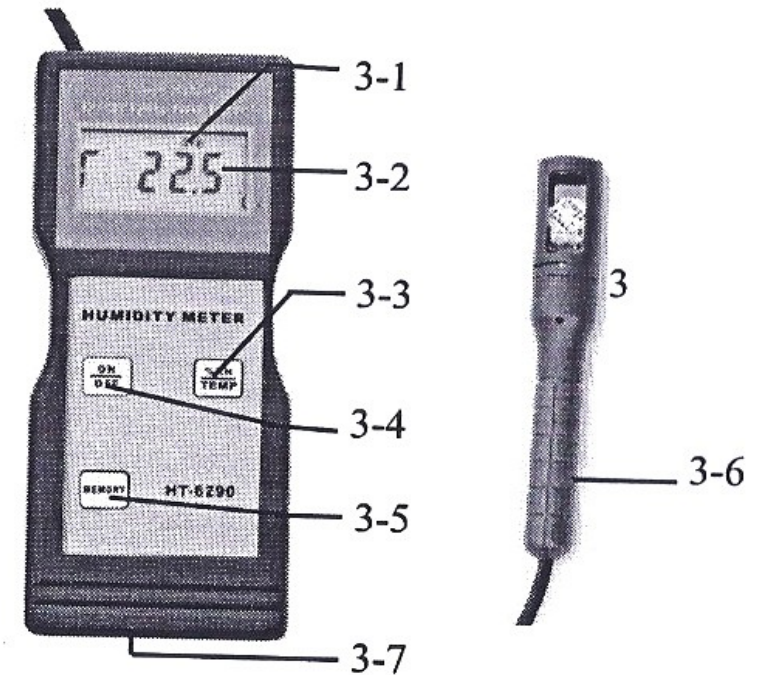

Fig. 1
- 6.2 Slide the Battery Cover ( Fig. 1 , 3-6) away from the instrument and remove the batteries.